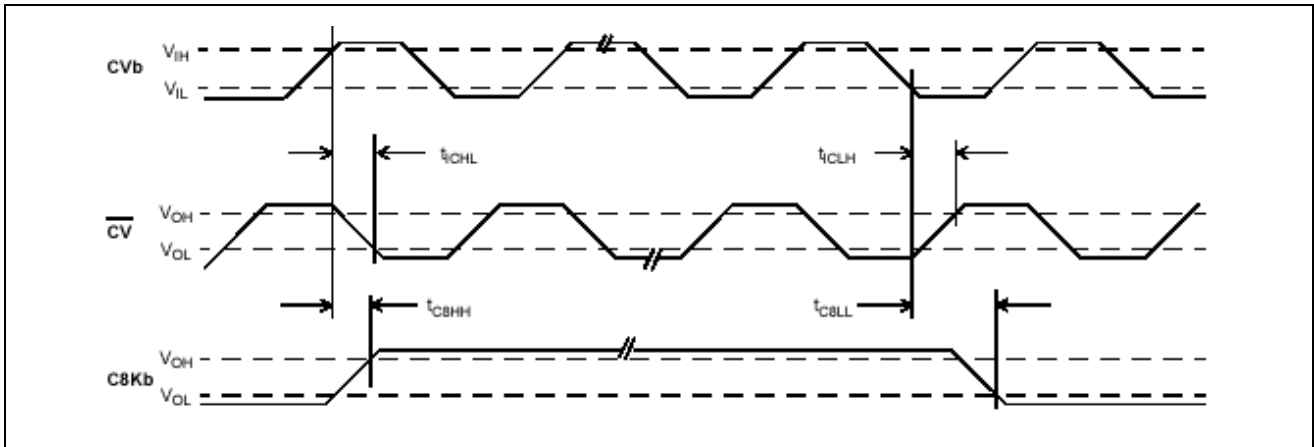

Figure 15 - DPLL #1 in DIVIDE Mode
**AC Electrical Characteristics†** - Voltages are with respect to ground ( $V_{SS}$ ) unless otherwise stated. (Refer to Figure 15)